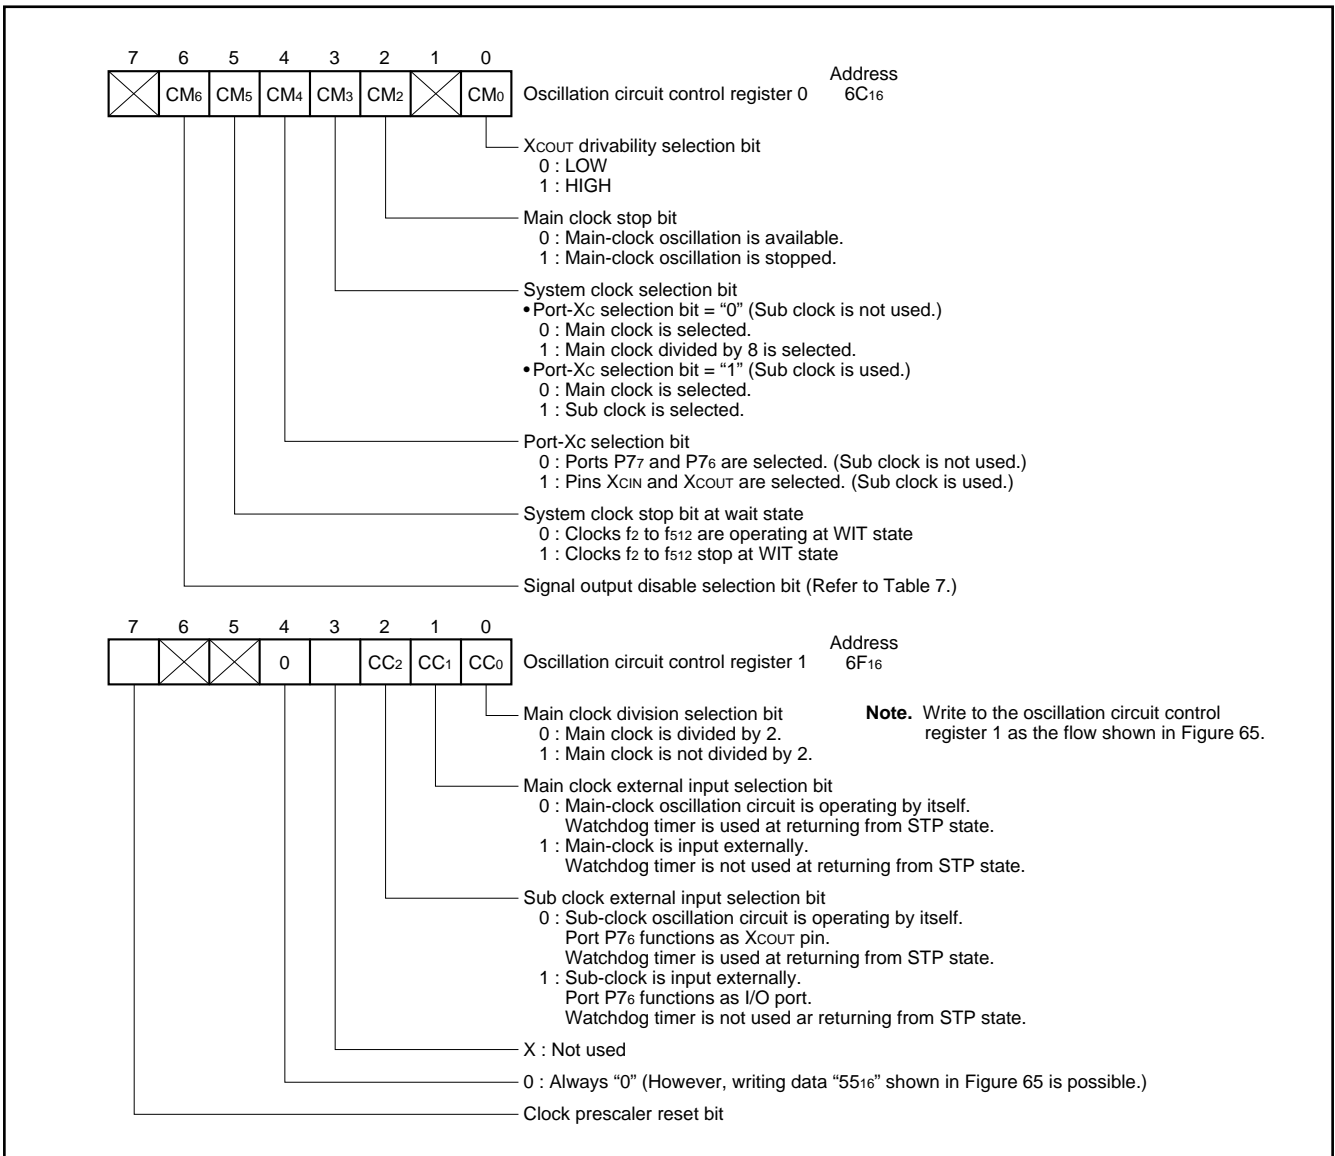
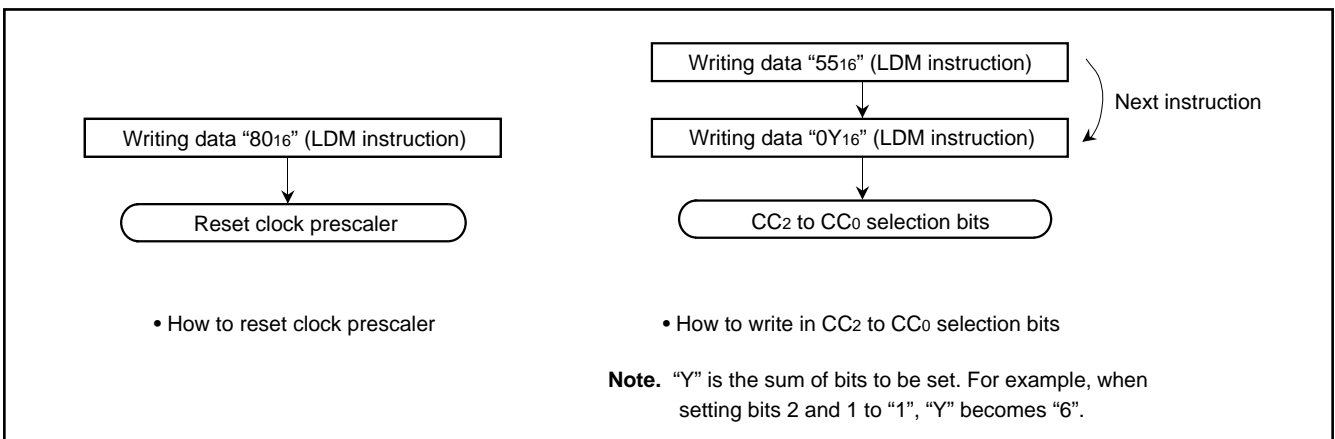

Fig. 64 Bit configuration of oscillation circuit control registers 0, 1
Fig. 65 How to write data in oscillation circuit control register 1
**Note.** Functions shown in Table 7 cannot be emulated in a debugger. For the oscillation circuit control register 0, refer to Figure 64. For the port function control register, refer to Figure 11.
Figure 63 shows the example of the external clock input circuit. When inputting the main clock externally, the main-clock oscillation circuit stops operating and power dissipation could be conserved by setting the main clock external input selection bit (bit 1 of the oscillation circuit control register 1, refer to Figure 64) to "1". Note that this bit also has the function to select a return factor from STP state (refer to the section on the STANDBY FUNCTION.) Additionally, write to the oscillation circuit control register 1 as the flow shown in Figure 65.
Figures 64 and 66 show the bit configuration of the oscillation circuit control registers 0, 1 and the clock generating circuit diagram. The clock generating circuit consists of main- and sub-clock oscillation circuits, system clock switch circuit, clock dividing circuit, standby control circuit, and others. The oscillation circuit control registers are some of the control registers for the clock generating circuit.